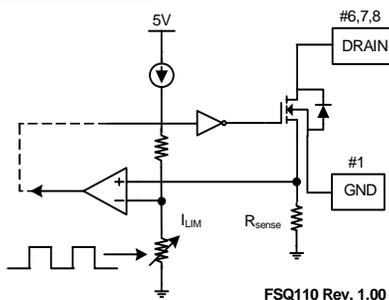

**Figure 15. Overload Protection (OLP)**
**4.1 Overload Protection (OLP):** Overload is defined as the load current exceeding a pre-set level due to an unexpected event. In this situation, the protection circuit should be activated to protect the SMPS. However, even when the SMPS is operating normally, the OLP circuit can be activated during the load transition. To avoid this undesired operation, the OLP circuit is designed to be activated after a specified time to determine whether it is a transient situation or a true overload situation. In conjunction with the  $I_{PK}$  current limit pin (if used), the current mode feedback path limits the current in the SenseFET when the maximum PWM duty cycle is attained. If the output consumes more than this maximum power, the output voltage ( $V_O$ ) decreases below nominal voltage. This reduces the current through the opto-coupler LED, which also reduces the opto-coupler transistor current, increasing the feedback voltage ( $V_{FB}$ ). If  $V_{FB}$  exceeds 3V, the feedback input diode is blocked and the  $5\mu A$  current source ( $I_{DELAY}$ ) starts to slowly charge  $C_{FB}$  up to  $V_{CC}$ . In this condition,  $V_{FB}$  increases until it reaches 6V, when the switching operation is terminated, as shown in Figure 15. The shutdown delay time is the time required to charge  $C_{FB}$  from 3V to 6V with  $5\mu A$  current source.